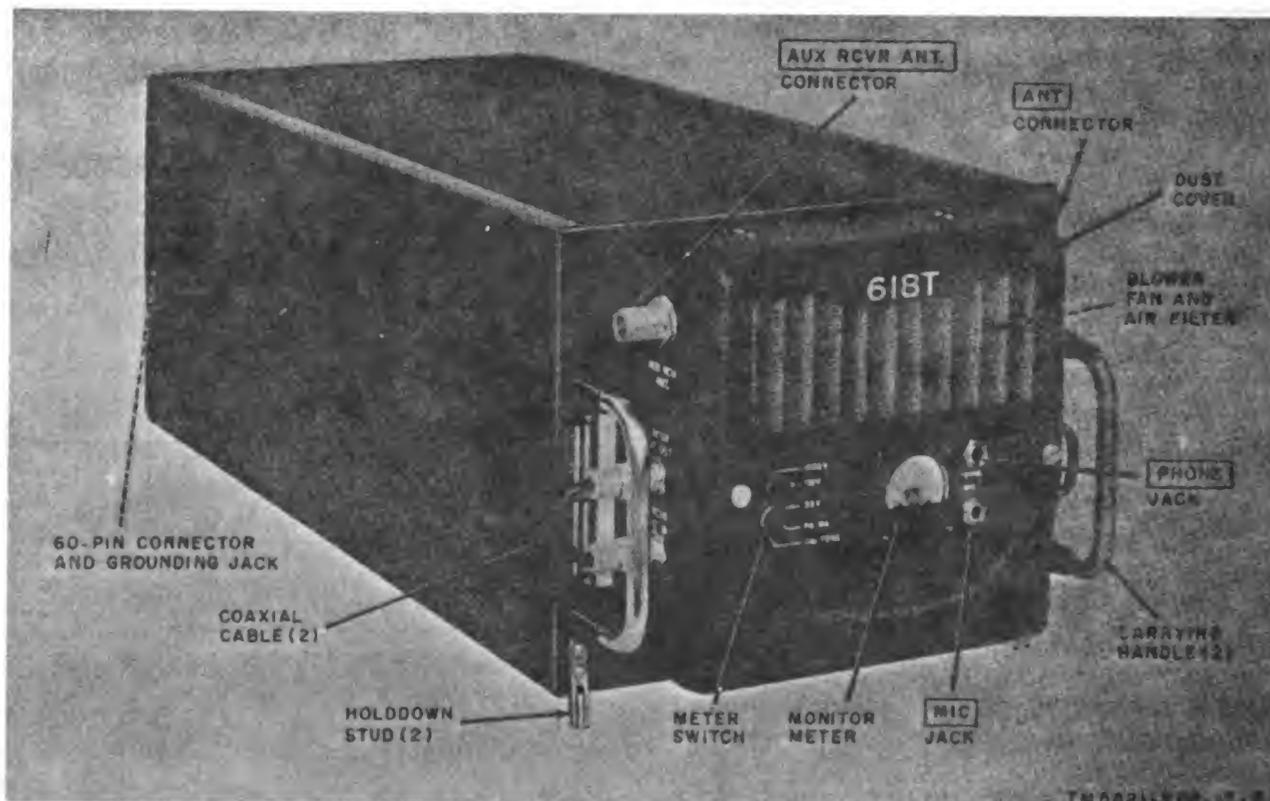

Figure 2. Receiver-transmitter.
b. The components of the radio set are secured to mounting surfaces within the aircraft. From the mounting and panel connectors, connections are made to the aircraft power source and the components of the radio set. The coaxial cable connection to the antenna is made either direct from the front panel of the receiver-transmitter (fig. 2) or through an antenna coupling unit (not part of the radio set; paragraph 12f). The control unit is normally located in the radio control panel
**9. Description of Receiver-Transmitter (fig. 2)**